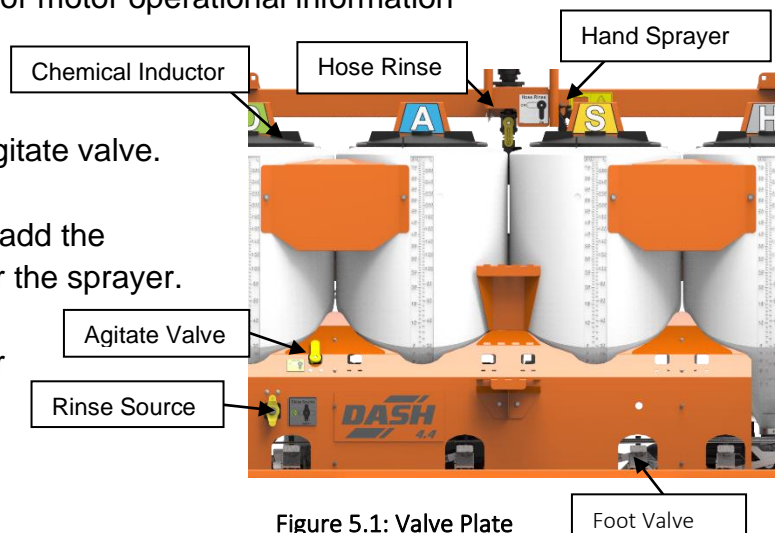
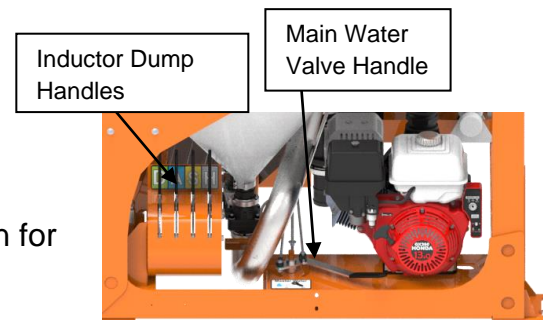

Figure 5.1: Valve Plate
Figure 5.2: Chemical Dump Handles and Pump Motor
3. Change the rinse source to inductor D or J (Figure 5.1).
4. Turn on the agitate valve and let run for 1 minute (Figure 5.1). Also, run any optional agitate valves that are installed.
5. Ensure main water valve (Figure 5.2) is closed and pump outlet is blocked then open all 4 of the inductor valves (Figure 5.2). The hand sprayer can be used to clean manually if desired.
7. Connect main hose to sprayer and empty all inductors using the gas-powered water pump (Figure 5.2). Close inductor valves when finished.
8. Change the rinse source to water and fill the left inductor D or J, depending on the model, with minimum 30 gal using the agitate valve. (Figure 5.1).
9. Turn on the agitate valve and let run for 30 seconds (Figure 5.1). Also, run any optional agitate valves that are installed.
12. Connect main hose to sprayer and empty all inductors using the gas-powered water pump (Figure 5.2). Add more fresh water as needed for sprayer rinse.
14. Turn on the agitate valve (Figure 5.1) and fill left inductor with enough fresh water to push any rinse water out of the main water hose.
15. Change the rinse source to inductor D or J (Figure 5.1).
16. Turn on the agitate valve and let run for 30 seconds (Figure 5.1).
17. Turn the rinse source back to water (Figure 5.1).
3. Run all installed agitate valves to vent water from lines. (Figure 5.1)
4. Open all the inductor valves (Figure 5.2). Using foot valves activate all jug rinse nozzles to vent hoses. (Figure 5.1)
6. Set Rinse Source to Water. (Figure 5.1)
9. Set Rinse Source to D or J. (Figure 5.1)
10. Turn on all installed Agitate valves for 5 sec. (Figure 5.1)
11. Turn on Hand Sprayer for 5 sec. (Figure 5.1)
12. Ensure main water valve is closed. (Figure 5.2)
13. Open each inductor dump valves in turn. (Figure 5.2)
14. Close inductor dump valves. (Figure 5.2)
3. Set Rinse Source to Water. (Figure 5.1)
4. Turn on all installed Agitate valves and let run for 30 sec. (Figure 5.1)
5. Open inductor valves to turn on all the inductor rinse valves. Let run for 1 minute. (Figure 5.2)
7. Turn on Hand Sprayer and let it run until the antifreeze is flushed out. (Figure 5.1)